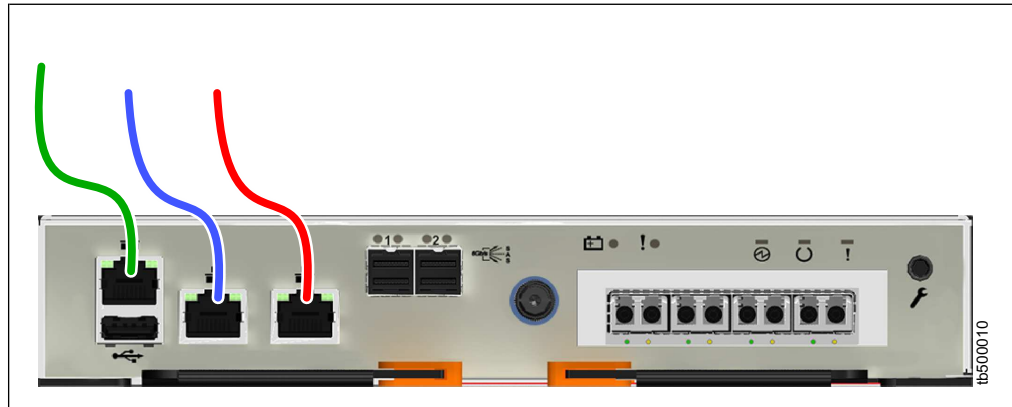

Figure 126. Connecting the Ethernet cables to a Storwize V5030 or Storwize V5030F system
- a. Identify the location and function of the Ethernet ports on your system; refer to Figure 126 on page 145.
- The technician port should only be used to initialize or service the system. In Figure 126 on page 145, the technician port is identified by the green cable.
- b. Connect Ethernet port 1 of each Storwize V5030 or Storwize V5030F node canister in the system to the IP network that will provide a connection to the system management interfaces. Figure 126 on page 145 shows the port locations and Ethernet cabling on a Storwize V5030 or Storwize V5030F node canister.
- c. Optionally, connect Ethernet port 2 of each node canister in the system to a second IP network, as shown by the red cable connection in Figure 126. Port 2 can provide a redundant connection to the system management interfaces. Port 2 can also be used for iSCSI connectivity to the system by hosts on the network. If more than one control enclosure is present in the system, ensure that port 2 of every node canister is connected to the same network to provide access if the configuration node fails.